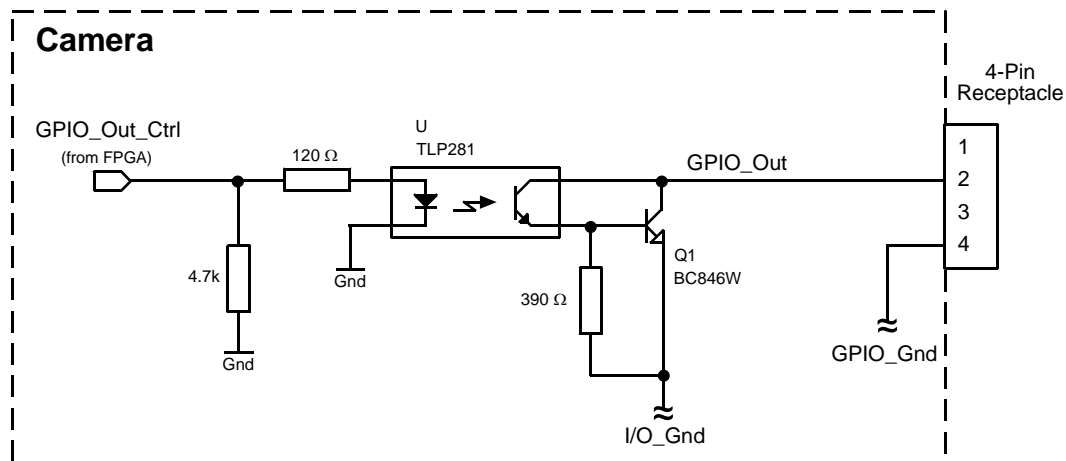

Fig. 18: GPIO Line Schematic (GPIO Line Set as an Output)
- A low output signal from the camera results in a non-conducting Q1 transistor in the output circuit (see Figure 18).